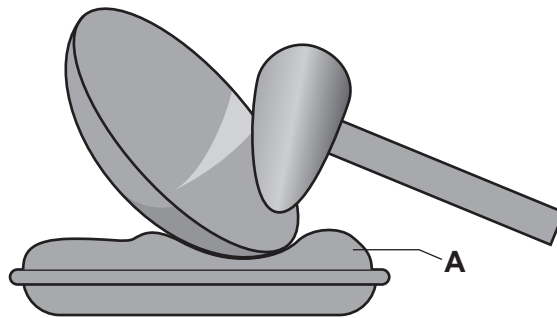

Fig. 7.1
- 7 Fig. 7.1 shows a copper dish being beaten into shape. When the copper is beaten it becomes 'work hardened'.